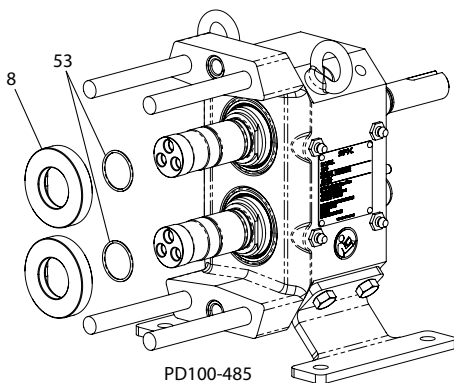

Figure 34 - Remove Seal Seats
1. Remove the seal seats (Figure 34, item 8) from the shafts. Take care to prevent damage to the seats or shafts.
2. Remove and inspect the o-rings (item 53).